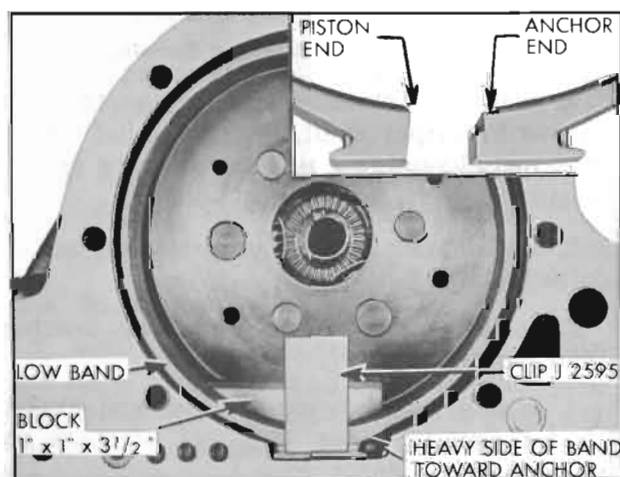

Figure 5-101—Installation of Low Band and Struts
2. With the assembly standing on end of rear bearing retainer, install a wooden block (1"x2"x3½") as shown in figure 5-101. Set both low band struts in position on block, with plain ends engaging strut shoulder of operating lever and groove in anchor shaft and with notched ends together and about ⅜" from wall of case. Spread struts as far apart as possible.
3. Compress ends of low band with Band Installing Clip J 2595 (fig. 5-101).